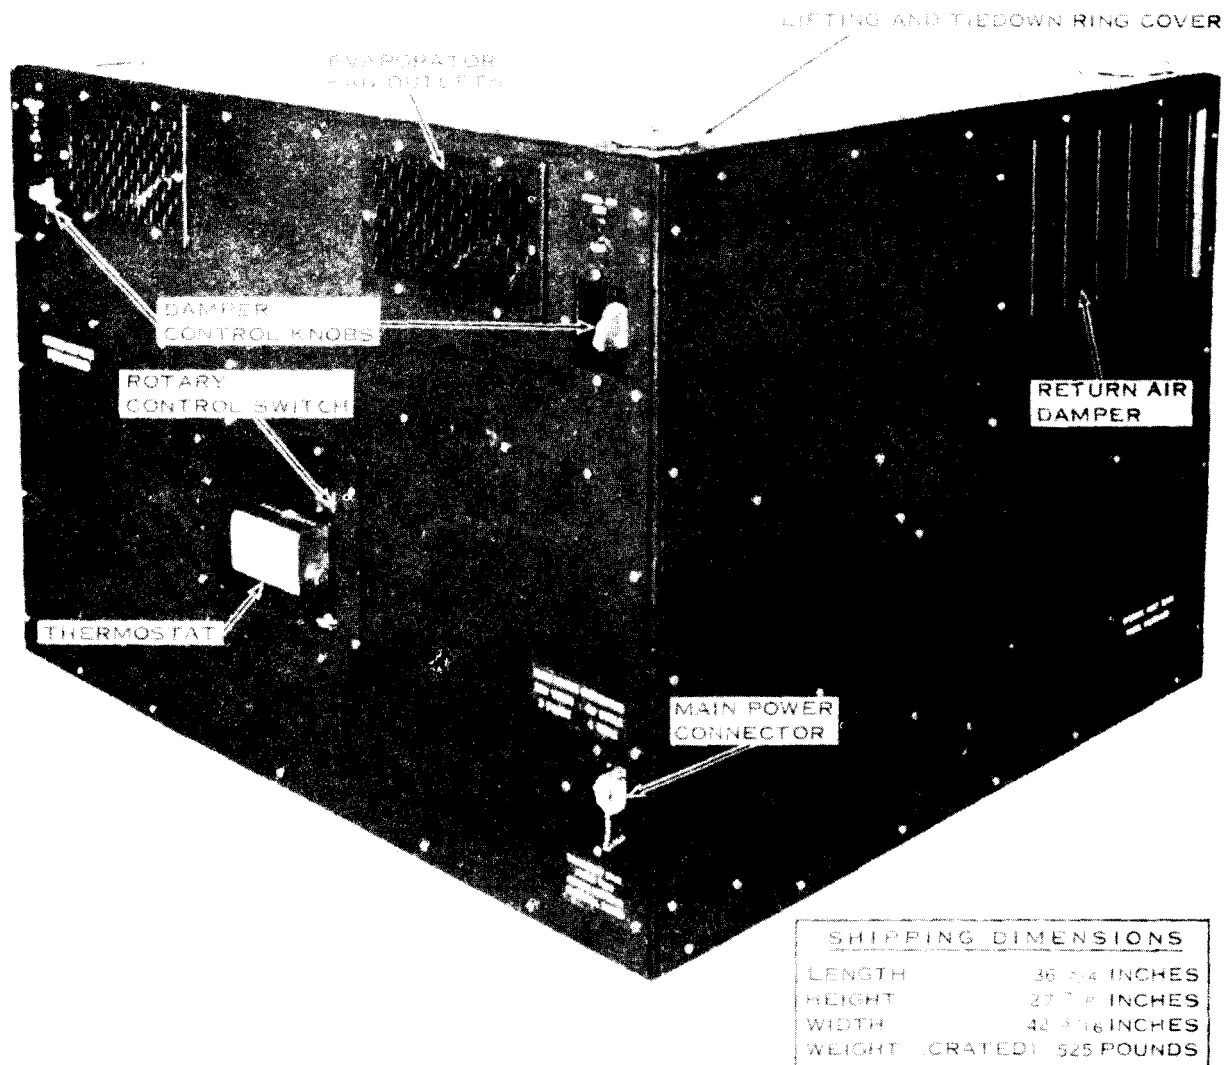

Figure 1. Air Conditioner, Right Front View, With Shipping Dimensions.
a. General. The York Model MA3-F23A air conditioner (figures 1, 2, 3 and 4) is a single package, base mounting unit designed primarily for use in van-type enclosures for providing filtered, conditioned air for the efficient operation of electronic equipment and the comfort of personnel. The unit is designed for continuous operation with varying loads.
(7) Dimensions and Weight. See figure 1.